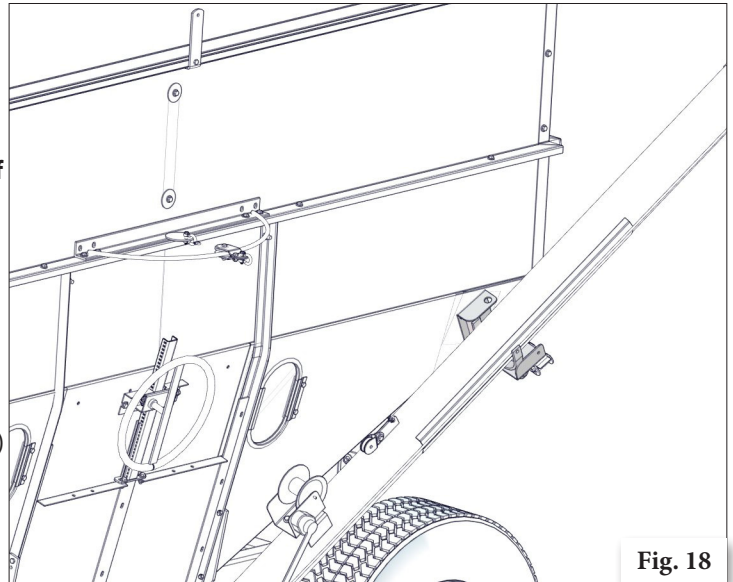

Fig. 18
- Place the Auger Transport Bracket in position according to Fig.18.